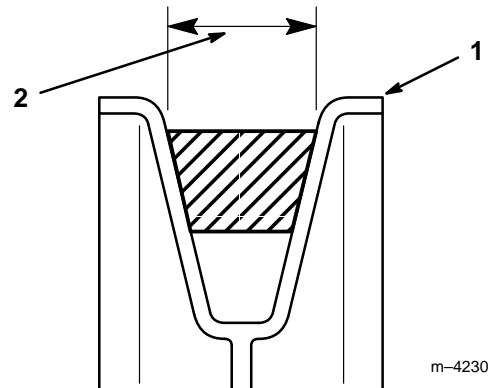

Figure 12
7. Make certain that the wide side of the PTO drive belt is toward the outside diameter of **all (four) pulleys (Fig. 12).**